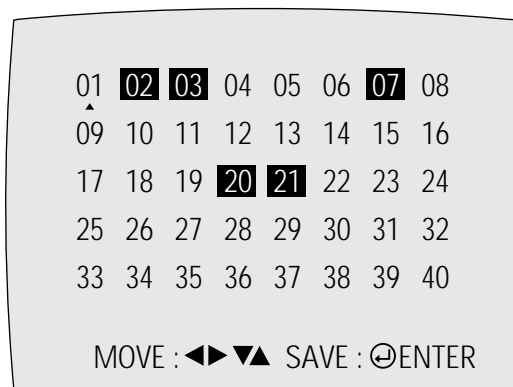

Fig. 6-3
- 2) Press the “1, 4” button on the remote control. The option setting appears. (See Fig. 6-3)